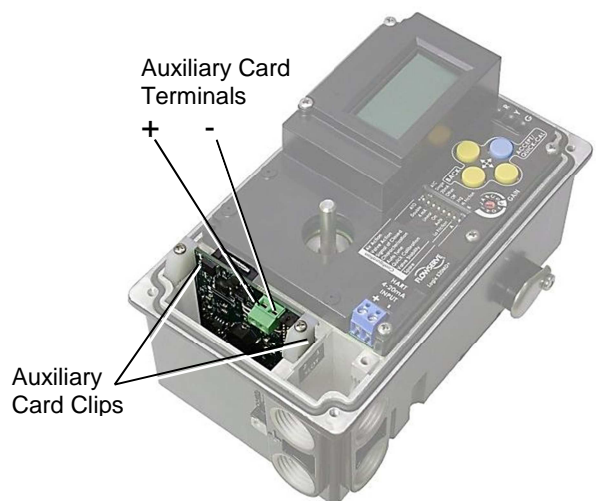

Figure 26: Auxiliary Card
- 6 Disconnect the auxiliary card cable if present. See Figure 26: Auxiliary Card on page 38.